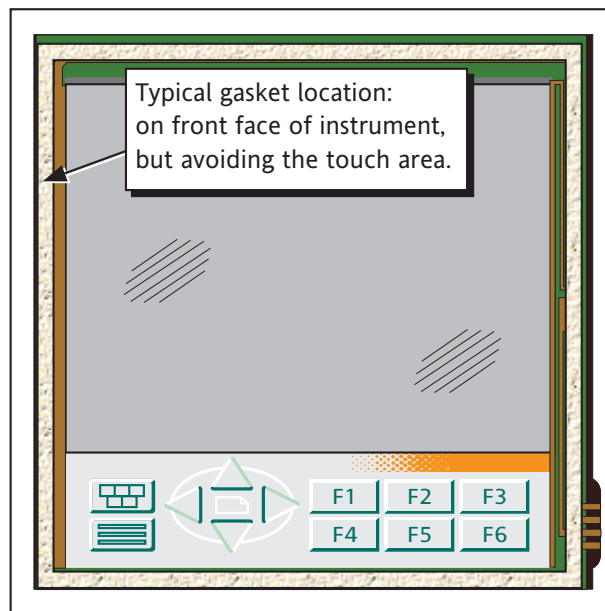

Figure 11.2.1 Typical gasket location for 'open' windows (small-frame unit shown; large-frame unit similar)
- b. A low tack adhesive (e.g. double-sided adhesive tape) should be used to provide a seal between the membrane and the non-touch-sensitive areas of the display (in a similar way to that shown for open window gasket sealing, in figure 11.2.1, below). The presence of dust, or other foreign matter, is not only unsightly, but it can also lead to unreliable operation of the touch screen. Ensure that both the touch screen and the membrane are clean before sealing.